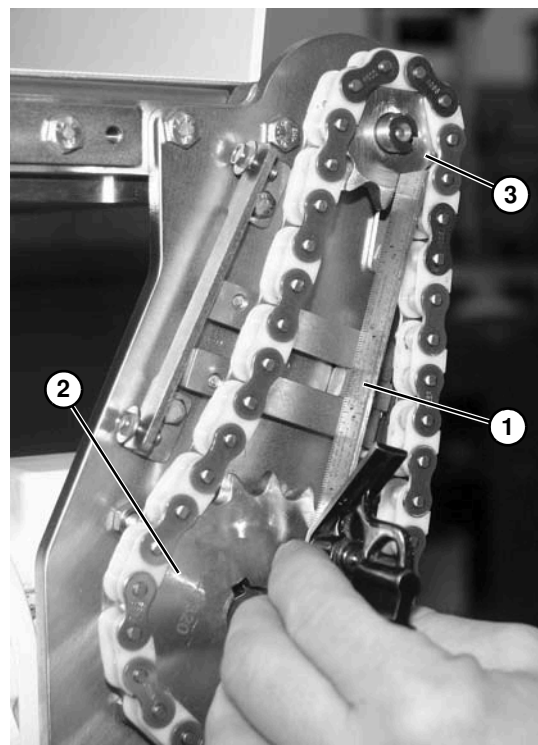

Figure 63
Using a straight edge (Figure 63, item 1), make sure drive sprocket (Figure 63, item 2) aligns with driven sprocket (Figure 63, item 3). Tighten drive and driven sprocket set screws.